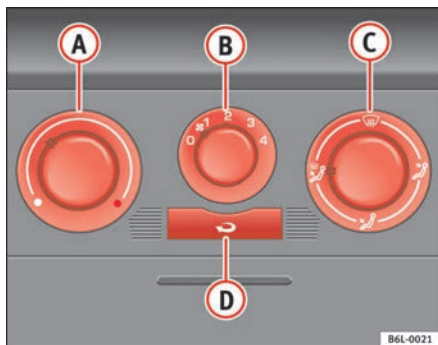

Fig. 92 On the dash panel: Heater controls
- Turn the temperature selector ⇒ fig. 92 ① anti-clockwise.
- Turn blower switch ⑦ to speed settings 1 -4.
- Set the airflow to the desired direction using air distribution control ③.
- Turn the temperature selector ⇒ fig. 92 ① clockwise to select the required temperature.
- Turn the temperature selector ⇒ fig. 92 ① clockwise to the maximum temperature.
- Turn the blower switch ⑦ to setting 4.
- Set air distribution to ④.
- Close outlet ③.
- Open and turn outlet ④ towards side windows
- Turn the temperature selector ⇒ fig. 92 ① to the heating zone.
- Turn blower switch ⑦ to speed settings 2 -3.
- Close outlets ③.
- Open and turn outlets ④ towards side windows